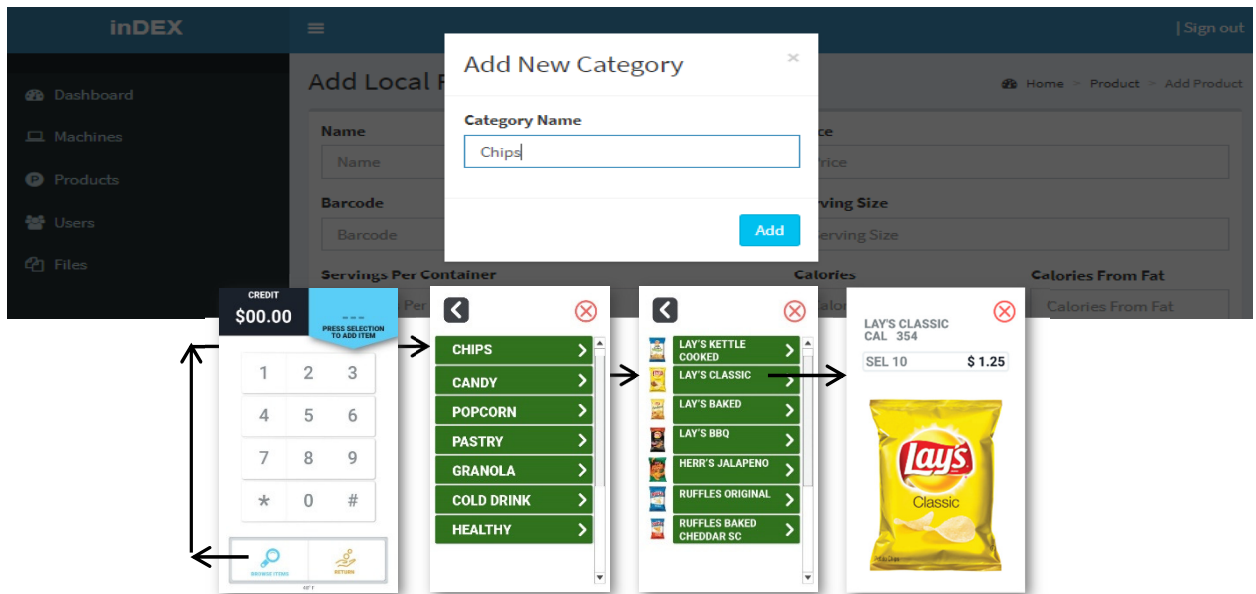

Figure 31
- **Category (Required):** Items are sorted by category. The iCart touch screen features a Browse Mode in which products and their information including calorie counts may be displayed before the sale (*figure 31*).